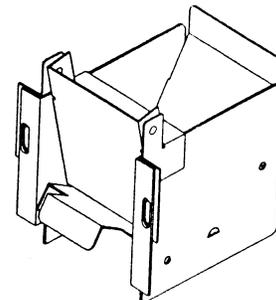

Figure 4
7. Once assembled, place the assembly in position as shown in figure 4.